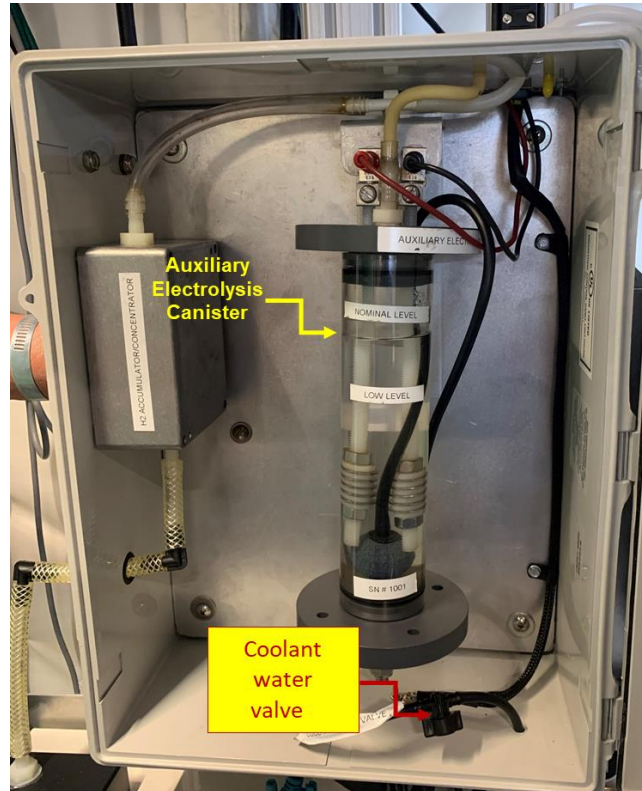

Figure 2: Coolant Water Valve
- 1.12 Turn coolant water valve (located on black tube behind the Auxiliary Electrolysis Canister) 90 degrees clockwise to “CLOSED”. (see Figure 2).